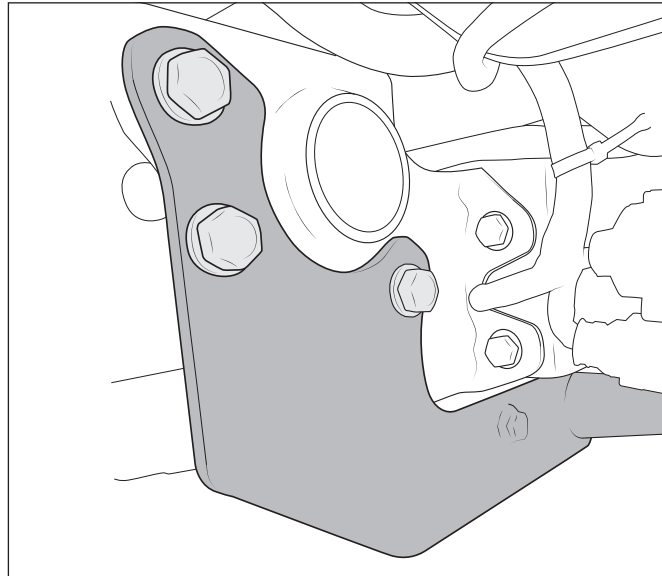

Figure 34
3. Lift AEV Corner Assembly into position and loosely reinstall the factory hitch assembly hardware through the mounting plate of the corner assembly (fig. 34).
- D. Torque factory hitch assembly bolts (fig. 34) to **116 lb-ft.**